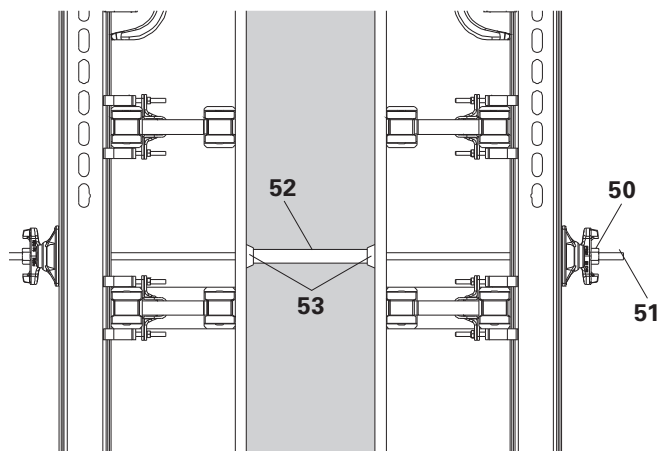

Fig. B8.01
1. Screw Wingnut Pivot Plate DW 15 (50) onto tie rod and insert pre-assembled tie rod (51) from the outside through the primary formwork.
2. Push spacer tube (52) with cones (53) onto the Tie Rod DW 15 (51).
4. Push Tie Rod DW 15 (51) through the closing formwork, then screw on Wingnut Pivot Plate DW 15 (50) and tighten firmly.
- (Fig. B8.01)